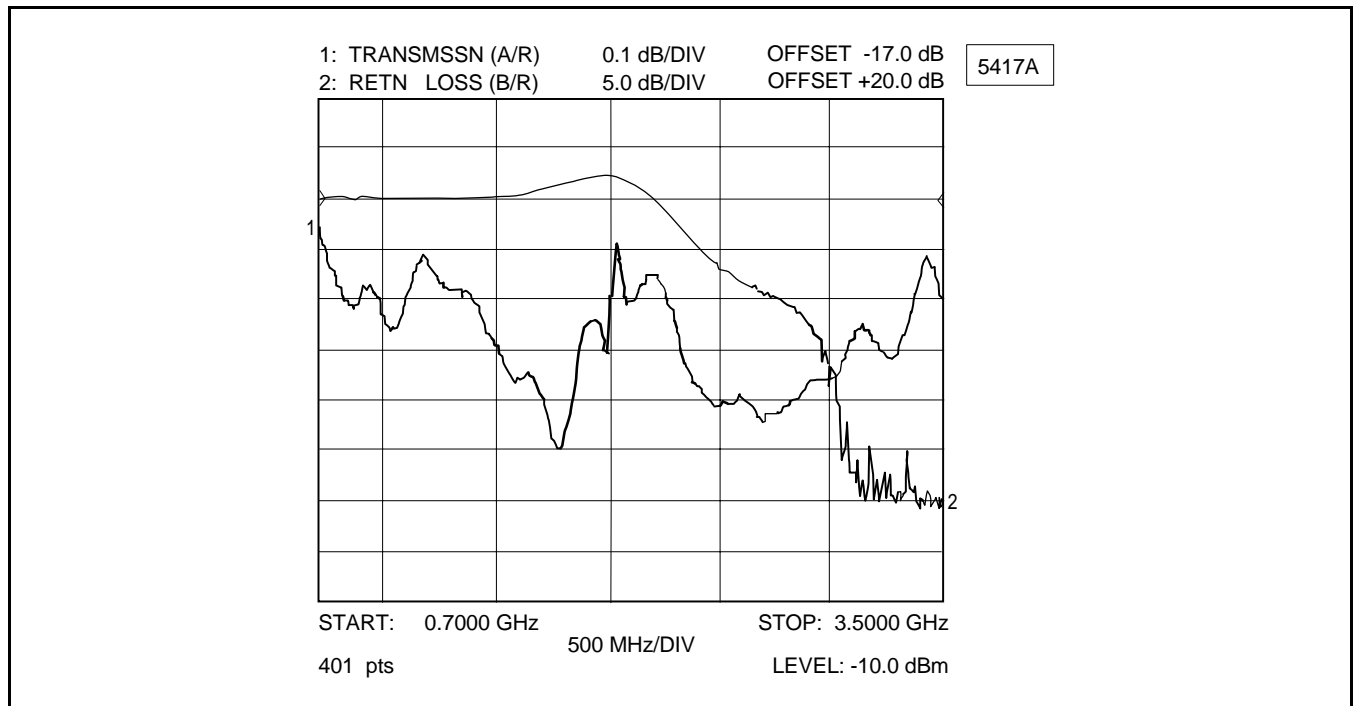

Figure 4-4. Example of Ratio Mode Measurement Display
8. Read the transmission loss (ratio A/R) by using the cursor data readout function to obtain measurement data at frequencies of interest (see Table 4-3, Step 7). An example of a ratio mode measurement display is shown in Figure 4-4. This figure shows both transmission loss (Trace 1) and return loss (Trace 2).